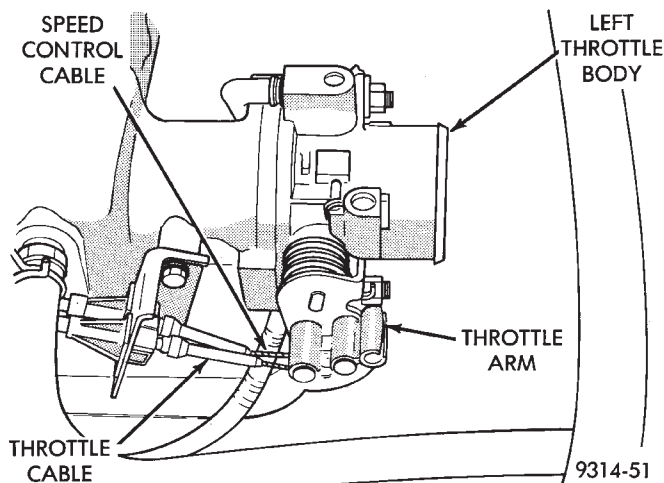

Fig. 19 Throttle Lever—3.5L Engine
(1) Release fuel system pressure. Refer to Fuel System Pressure Release Procedure in this section.
(2) Remove engine cover from top of intake manifold plenum.
(3) Remove accelerator cable and speed control cable from throttle arm (Fig. 19).